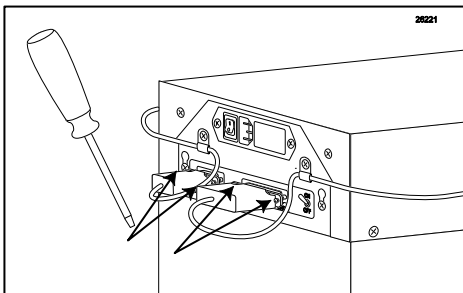

Figure 150
2. Tighten the 4 strain-relief screws of the cable connections with a small flathead screwdriver. (See Figure 150.)